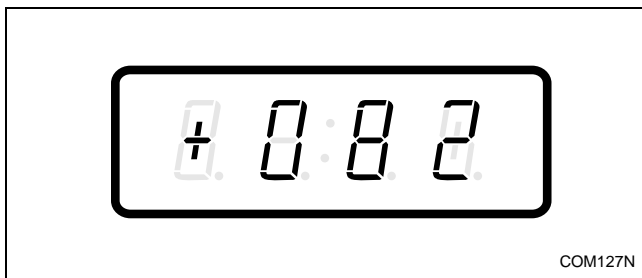

Figure 112
3. Press the DELICATES (+) or the COLD (-) keypad to scroll through the programmable options until “+082” appears in the VFD. Refer to *Figure 112*.